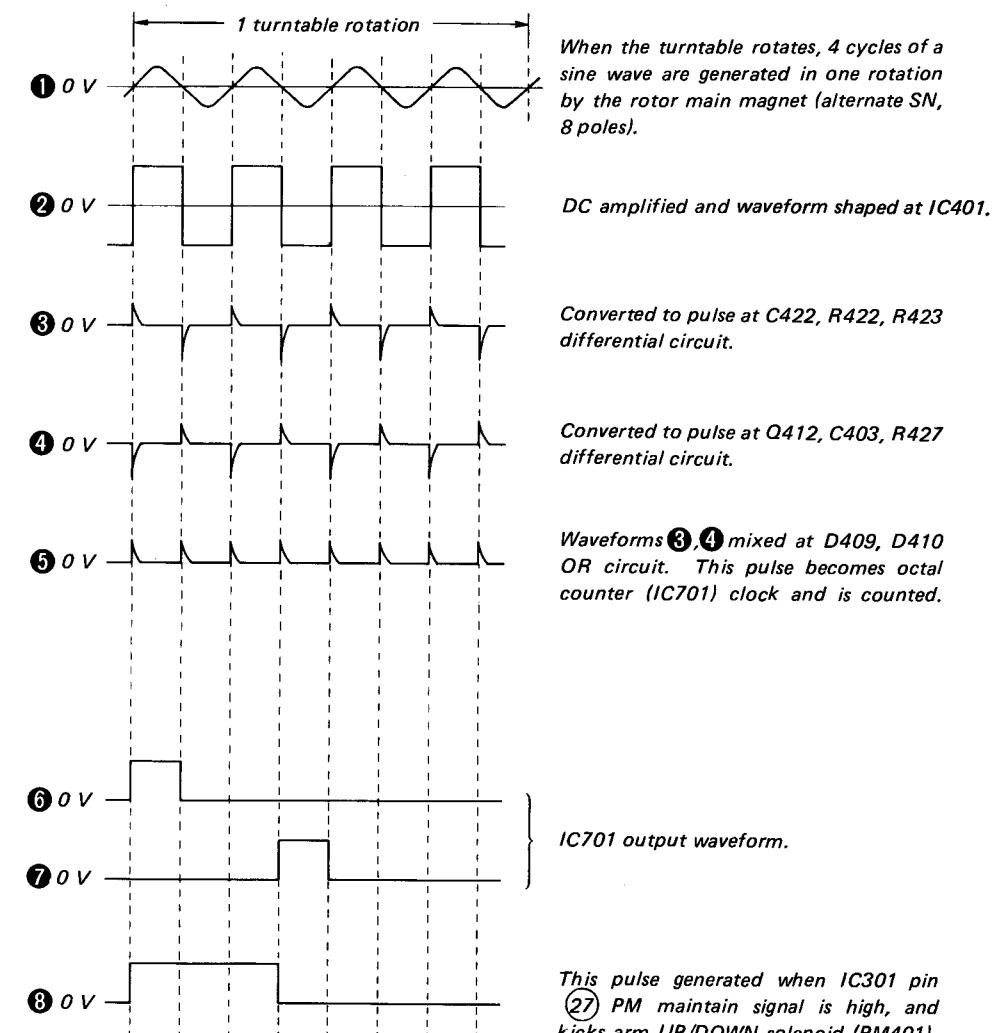

Figure 4
Refer to waveforms ① – ⑧ below and Figure 4 for circuit operation.